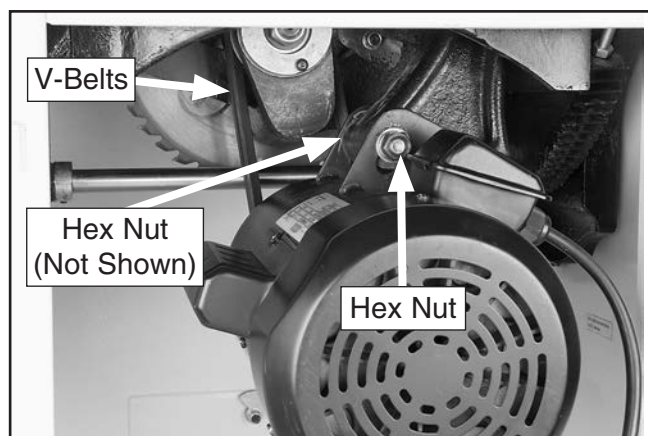

Figure 125. Motor mounting nut.
3. Loosen the hex nuts on the motor shown in **Figure 125**, and pivot the motor up and down to make sure that it is movable.
3. Loosen the hex nuts that secure the motor (see **Figure 125**) and raise the motor fully to remove tension on the V-belts. Roll the V-belts off of the arbor and motor pulleys.